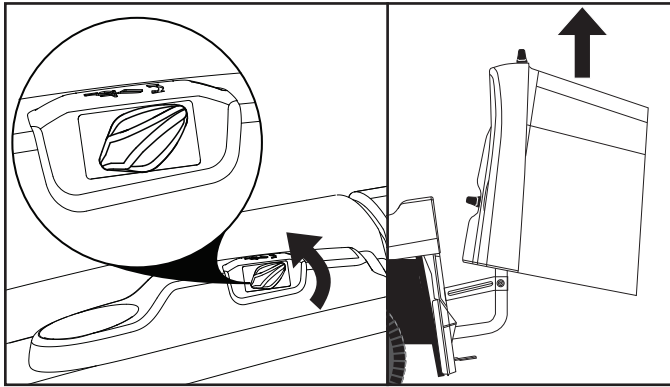

Fig. 21
TO OPERATE ELECTRIC DUMP SYSTEM (See Fig. 21 and 22)
- To lift the bagger, turn the electric dump switch counter clockwise. See Fig. 21.